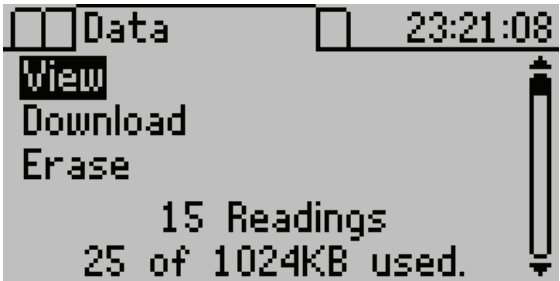

Figure 12 Data screen
- 1. Press **MENU** to navigate to the Data tab (Figure 12).